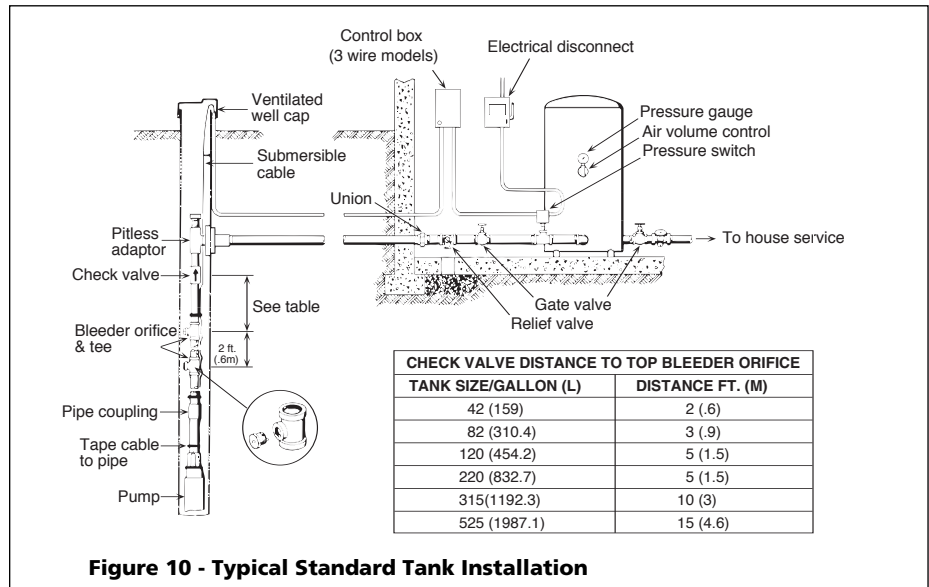

Figure 10 - Typical Standard Tank Installation
1. If standard air-over-water pressure tank is used, install two bleeder orifices about 2 ft. (0.6 m) apart as shown in Figure 10. Orifices will automatically charge the tank with air. See Figure 10 to help determine orifice location.
See Figure 10 for illustration of piping connections to standard pressure tank as well as distance between air release ports and tank.